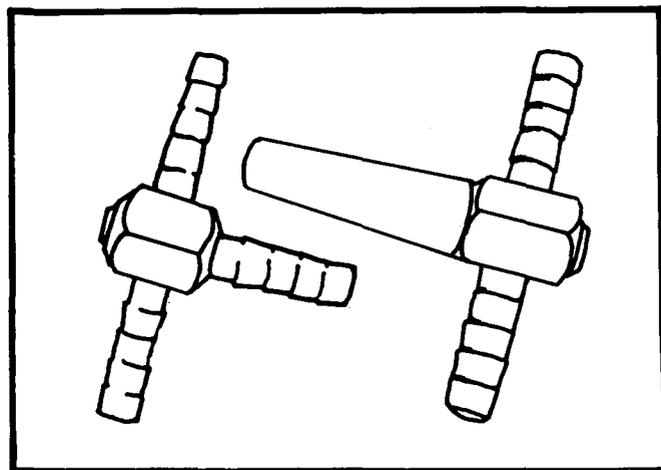

Figure 1. Connecting tees (left) and injection tees (right).
- **Connecting tees and injection tees** (figure 1). Injection tees should meet the following requirements: